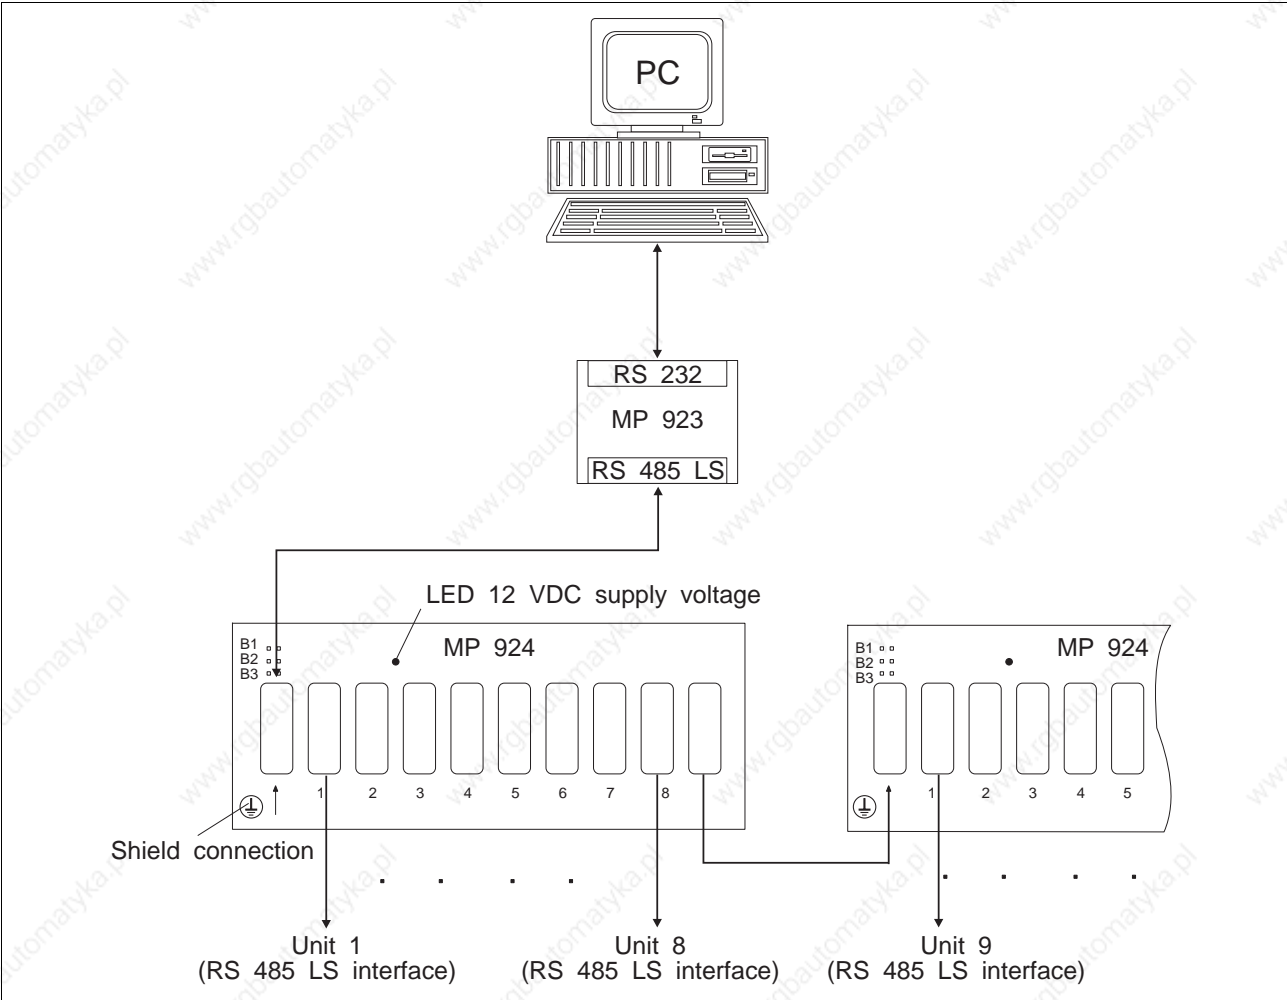

Fig. 6-6 MP 924 interface distributor wiring
1. Wire the MP 924 interface distributor in accordance with fig. 6-6. For interface conversion RS 232 ↔ RS 485 LS (RS 422), use the MP 923 interface converter (see chapter 6.2.2).
2. If several MP 924 interface distributors are used, combine them as illustrated in fig. 6-6.